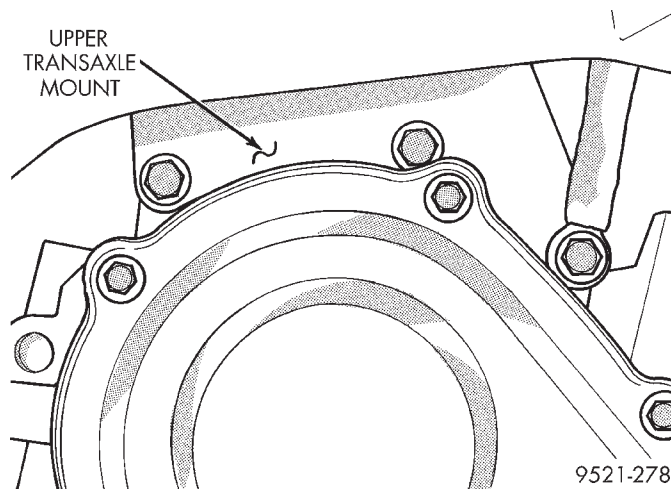

Fig. 48 Left Mount Bolts
(12) Remove bolts securing exhaust flex joint to exhaust manifold. Disconnect exhaust pipe from manifold.
(13) Remove remaining left upper mount bolts (Fig. 48).